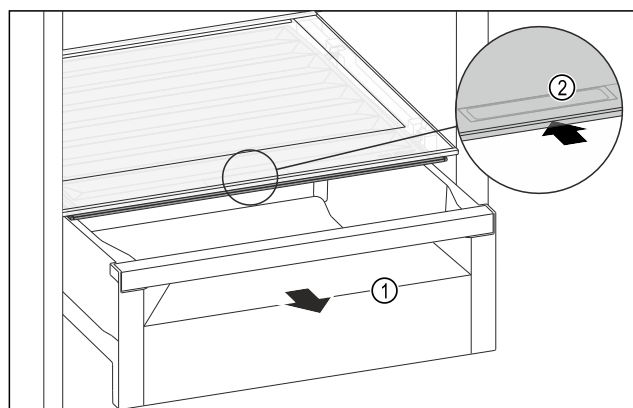

Fig. 64
- Pull out the drawer Fig. 64 (1).
- Grasp the recessed grip Fig. 64 (2) on the compartment lid and push the compartment lid backwards at the same time.